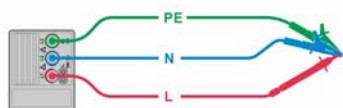

Figure 5.16a
- **Connect** the test leads to the instrument and short the test leads together using the Martindale shorting bar as shown (see Figures 5.16a, 5.16b and 5.16c).